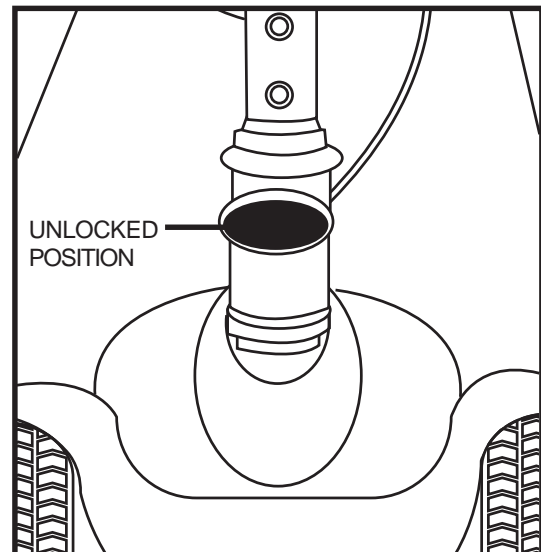

Figure 18. Tiller Lock Knob (Unlocked)
6. Unlock the front wheel by turning the tiller lock knob 90° counterclockwise. **See figure18.**